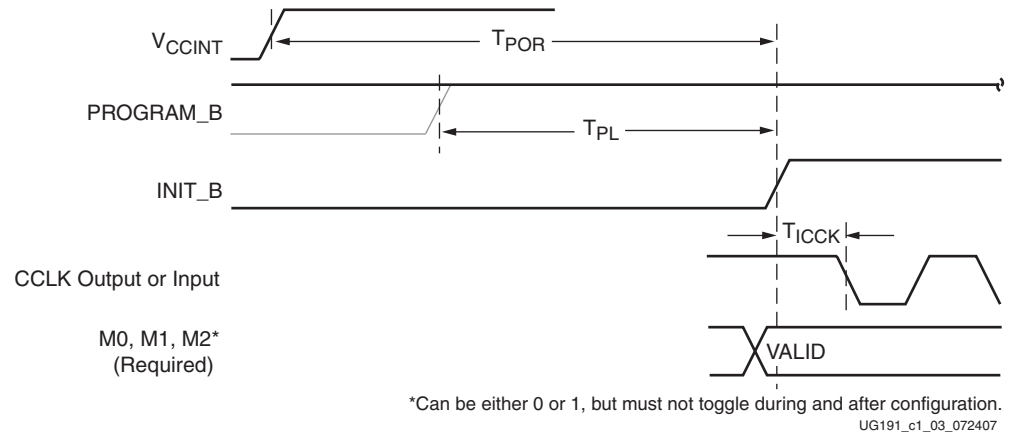

Figure 1-4: Device Power-Up Timing
Figure 1-4 shows the power-up waveforms.
Configuration memory is cleared sequentially any time the device is powered up, after the PROGRAM\_B pin is pulsed Low, after the JTAG JPROGRAM instruction or the IPROG command is used, or during a fallback retry configuration sequence. During this time, I/Os are placed in a High-Z state except for the dedicated Configuration and JTAG pins. INIT\_B is internally driven Low during initialization, then released after TPOR (Figure 1-4) for the power-up case, and TPL for other cases. If the INIT\_B pin is held Low externally, the device waits at this point in the initialization process until the pin is released.
- The first is to hold the INIT\_B pin Low during initialization (Figure 1-4). When INIT\_B has gone High, configuration cannot be delayed by subsequently pulling INIT\_B Low.